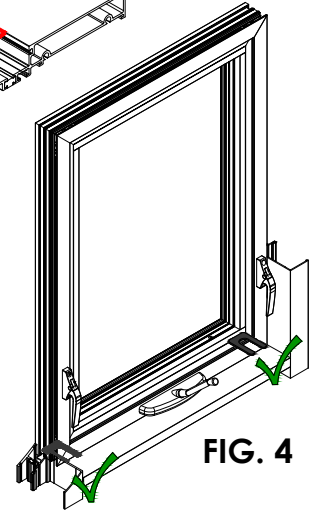
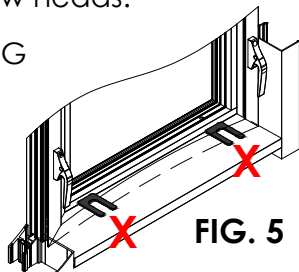

FIG. 4
FIG. 5
- Set Horseshoe shims onto the sill opening at each corner. Carefully set the vent onto the shims. **See FIG. 4 & FIG. 5**